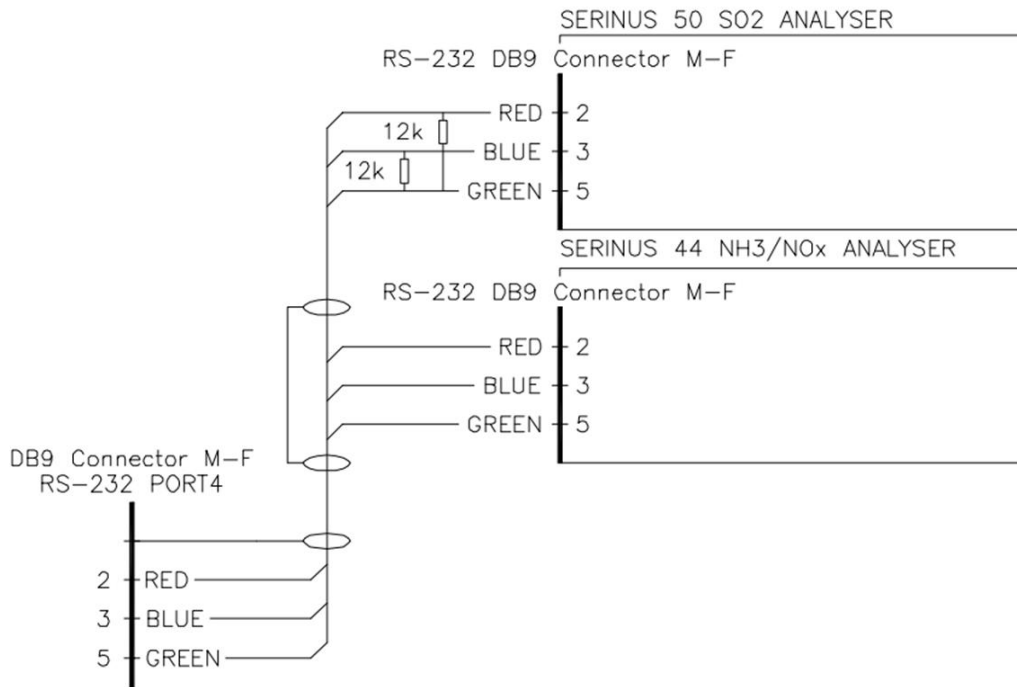

Figure 111 – Multidrop RS232 Cable Example
- A 12K ohm terminating resistor should be placed on the last connector of the cable. (connect from pin 2 to pin 5 and from pin 3 to pin 5) (Refer to Figure 111).